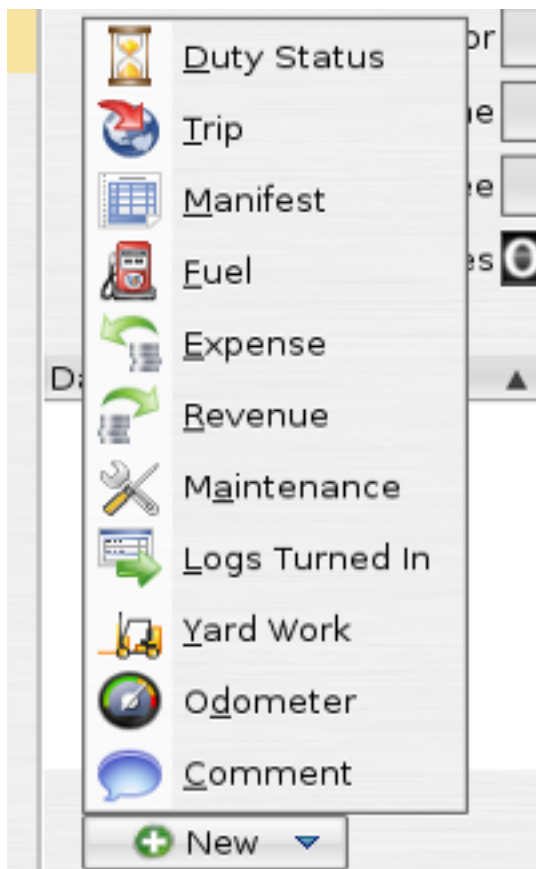

Figure 5.20. New Log Entry List
2. Click the New button on the "Driver's Log" screen. A popup menu will appear with a list of available and enabled log entry types. See Figure 5.20, “New Log Entry List”. If you do not see your log entry type listed make sure that particular type of log entry is enabled see Section 5.2.4.2, “Disable Log Entries”.